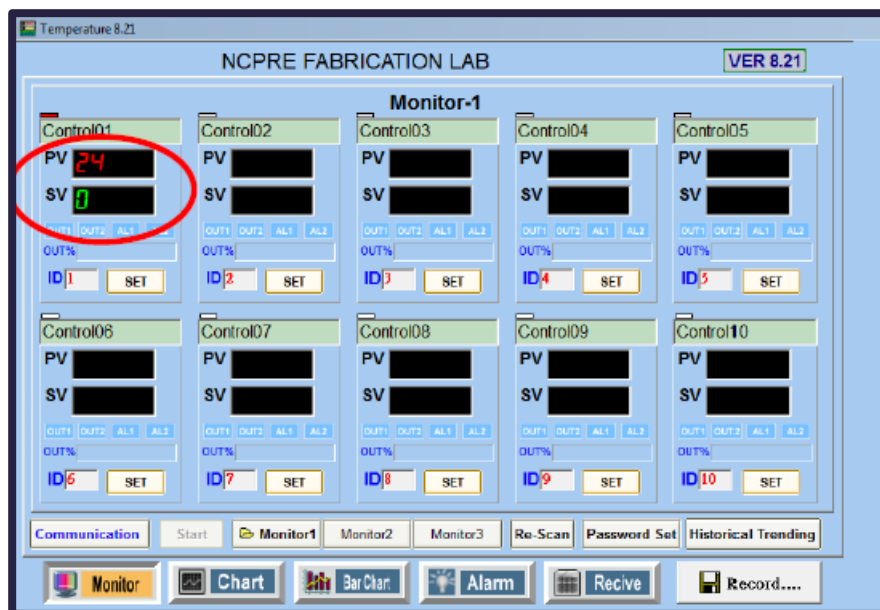

Figure. 19
- Once the communication is established between the hardware and the software the PV (Present Value) and SV (Set value) of the temperatures will appear as follows (Figure. 19).